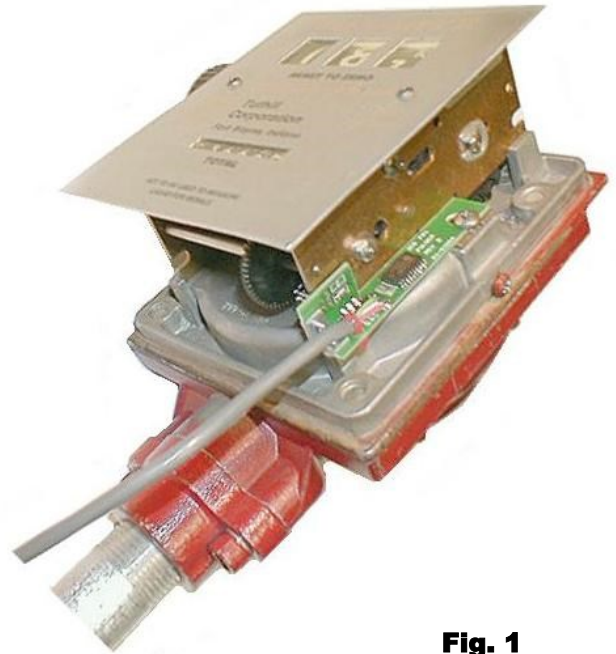
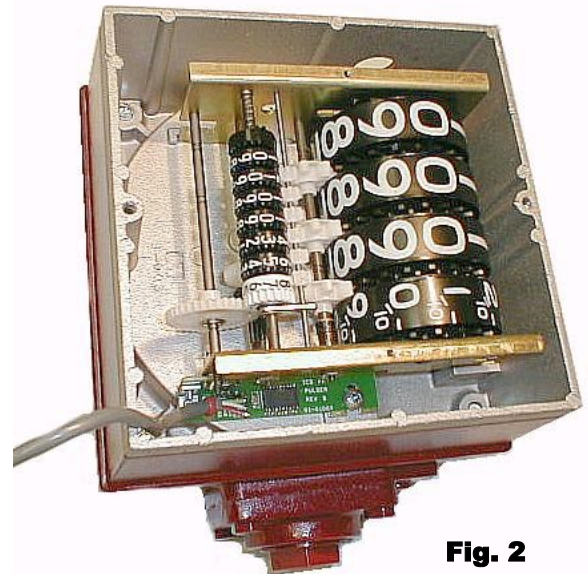

Fig. 1
Fig. 2
3. Starting from the bottom of the register, slide the pulser head along the right side until the slot in the pulser head is aligned with the register mounting screw. The optical sensor should fit into the slot on the register's right side. See Fig. 1 and Fig. 2 for 800 and 900 series registers respectively.